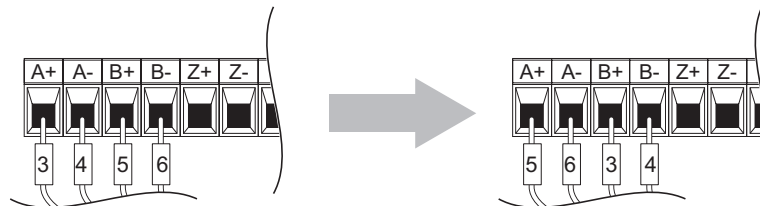

Figure 8.14 A Channel and B Channel Wire Switching
10. After connecting the PG encoder outputs to the option, apply power to the drive and manually rotate the motor and check the rotation direction by viewing monitor U1-05 on the digital operator. Reverse motor rotation is indicated by a negative value for U1-05; forward motor rotation is indicated by a positive value. If monitor U1-05 indicates that the forward direction is opposite of what is intended, set F1-05 to 1, or reverse the two A pulse wires with the two B pulse wires on option terminal TB1 as shown in Figure 8.14.